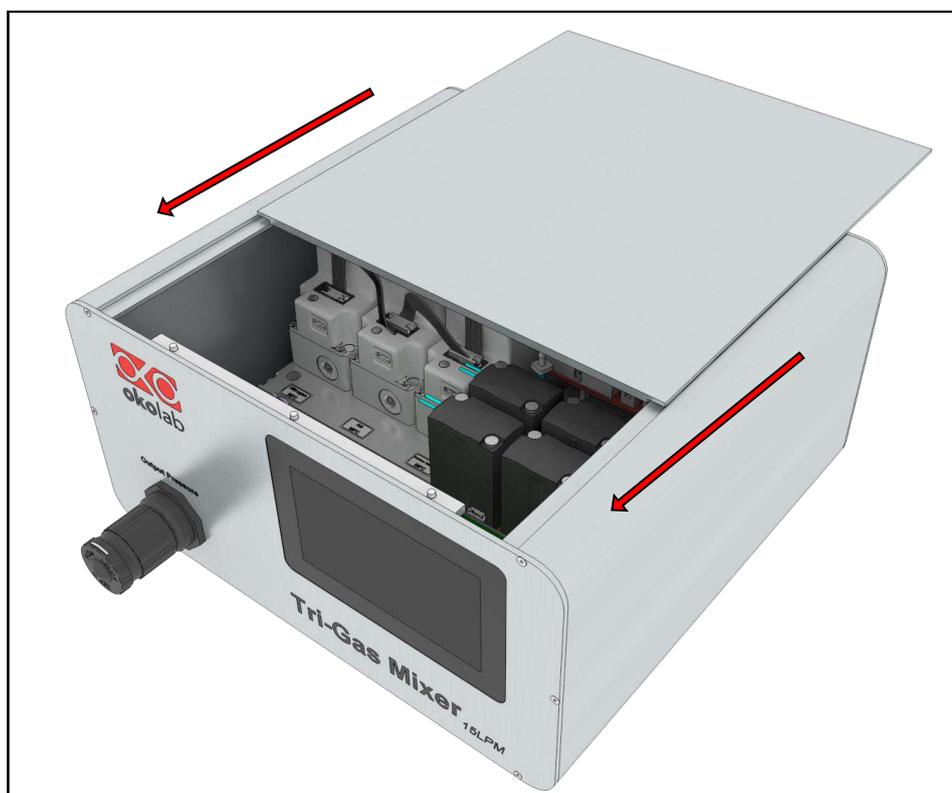

Figure 137. Cover repositioning
7. Slide and put the cover of the Tri-Gas-Mixer (see Figure 137).